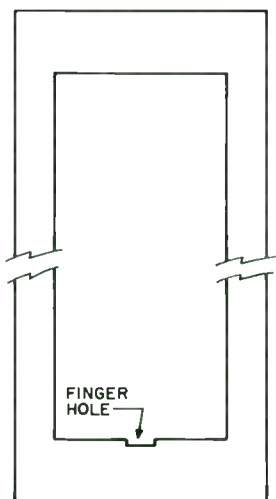

FIGURE 4: Window jig.
**ALTERNATE METHOD.** This method allows you to glue both stators at once, saving valuable time. You must enlist the aid of an able-bodied assistant and procure a piece of plywood large enough on which to tension the Mylar. The  $\frac{1}{2}$ -inch thick plywood must have a window cut in its middle (Fig. 4). Size the window just larger than the stator and place finger cutouts to place and remove the stator and panel.